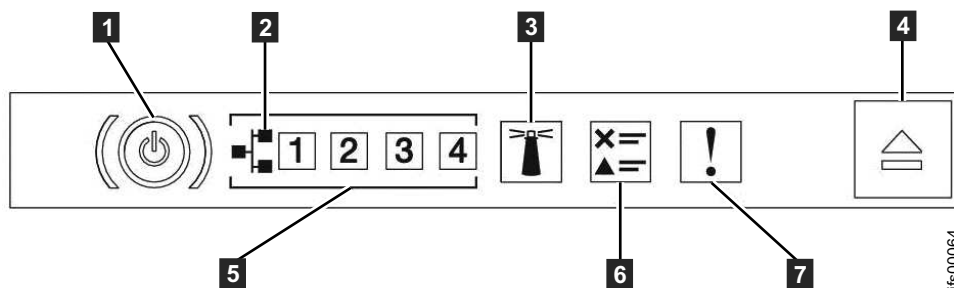

Figure 44. SAN Volume Controller 2145-DH8 operator-information panel
1. Is the System error LED **7**, shown in Figure 44 on page 304, on the SAN Volume Controller 2145-DH8 operator-information panel on or flashing?